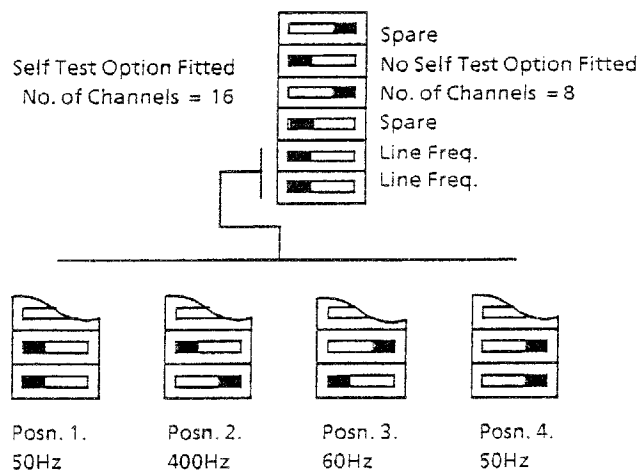

Fig. 4.1 Configuration Switch Settings
1. Remove the DVM top cover and SET the front two rockers on SW201 to the 60Hz position (Fig 4.1 refers).